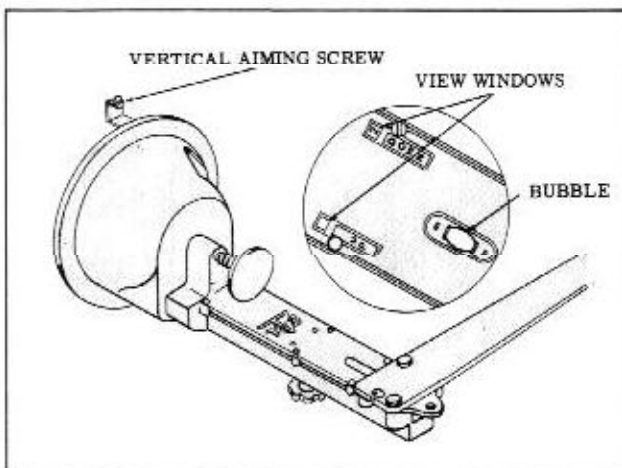

Fig. 13-87 Vertical Alignment
3. Loosen the slider knob beneath the aimer arm and set the number "2" in the DOWN view window. (Fig. 13-87) Back vertical lamp adjuster out on each lamp until bubble is outside of black lines of vial by turning clockwise.